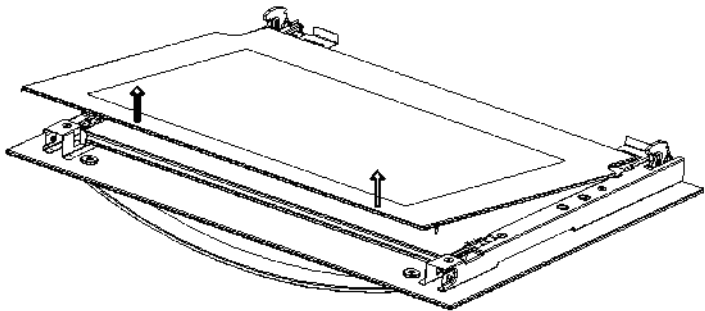

Figure 7
3. To move up the inside glass along with the direction of the arrow, as shown in figure 7.